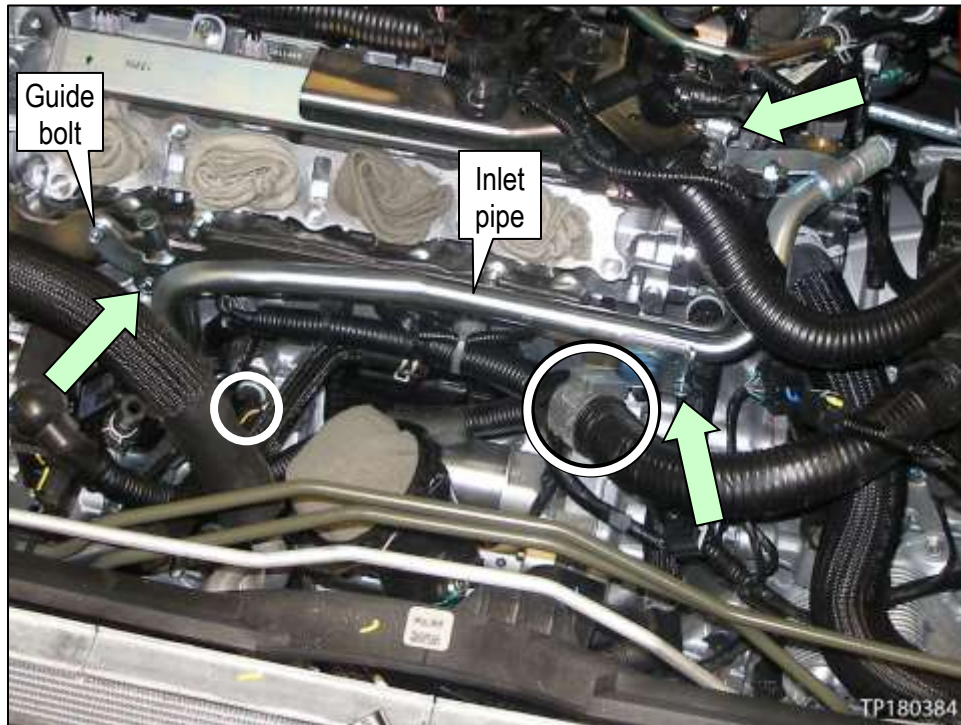

Figure 64
12. Install the three (3) water inlet pipe bolts (see arrows in Figure 64).
14. Fasten the two (2) harness clips to the water inlet pipe (see circles in Figure 64).